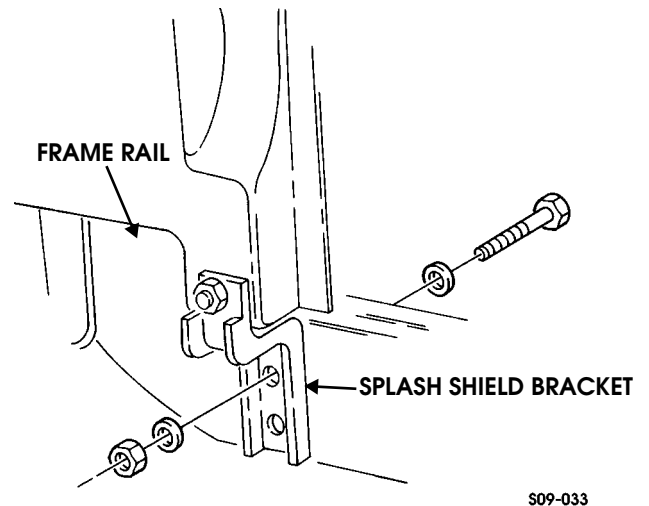

Figure 9-152: Splash Shield Mounting
6. Remove four locknuts, washers, bolts, and washers securing two splash shield brackets to frame rails (Figure 9-152).
6. Install four washers, bolts, washers, locknuts, and two splash shield brackets on frame rails. Tighten locknuts to 90 lb-ft (122 N•m) (Figure 9-152).